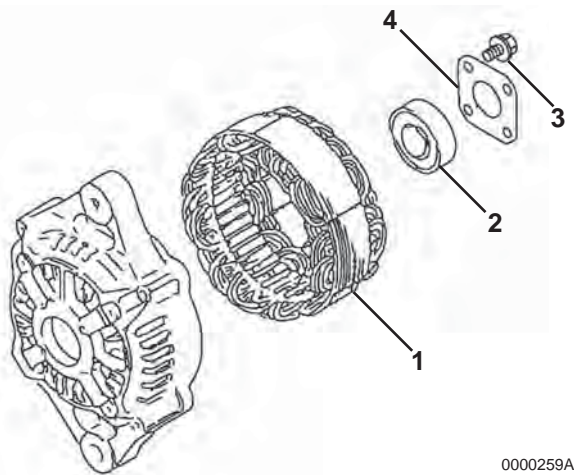

Figure 11-10
- Remove the stator assembly (**Figure 11-10, (1)**) from the front frame housing.
- If it is necessary to replace the bearing (**Figure 11-10, (2)**) in the front frame housing, remove the four bolts (**Figure 11-10, (3)**) securing the plate (**Figure 11-10, (4)**) to the front frame housing. Remove the plate. Use a puller to remove the bearing. Discard the bearing.